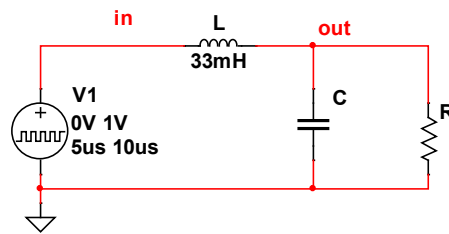

Figure 1 LC low pass filter
- b. Build the circuit in Figure 1. Assure that your build is neat and orderly, with labeled test points, and no *loops* or *jungles*. You are working near the bottom of the AM radio band. So short neat connections are necessary to not transmit or receive signals through the loops and jungles.